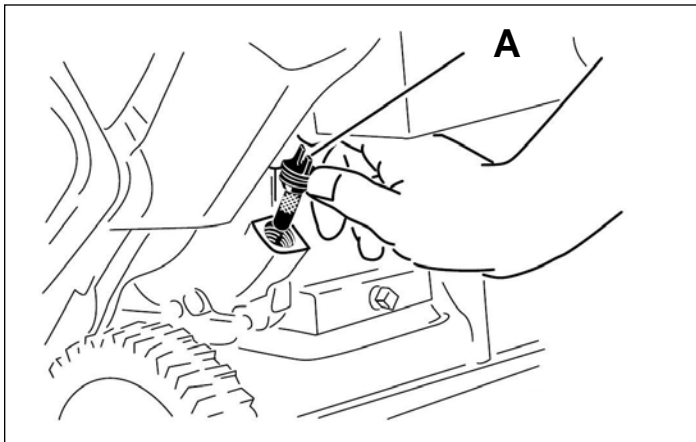

Fig. 014
6. Clean around the oil fill cap (Fig. 014).
7. Unscrew the oil fill cap and remove it (Fig. 014).